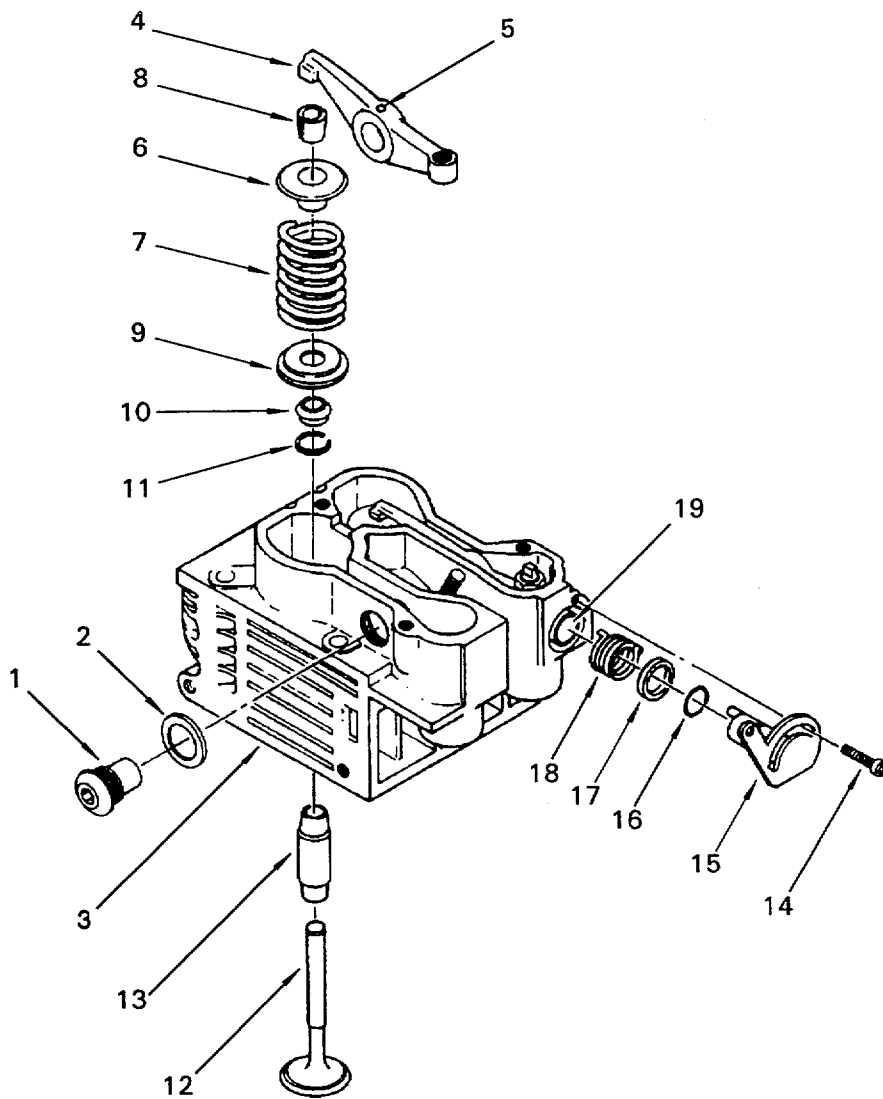

Figure 6-21. Cylinder Head Disassembly
6.3.20 Disassemble Cylinder Head. (Refer to figure 6-21.)
For clarity, only the exhaust valve assembly is shown exploded in figure 6-21. The following procedure also applies to the intake rocker arm assembly and to either cylinder head.